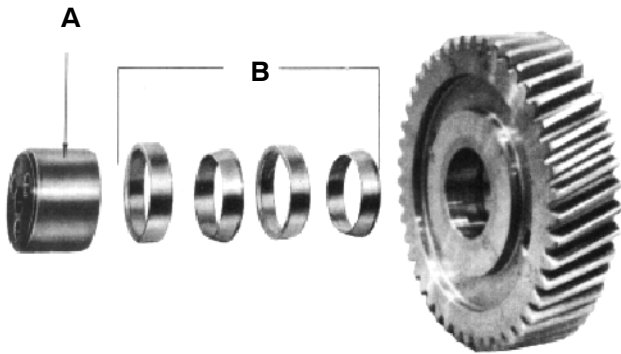
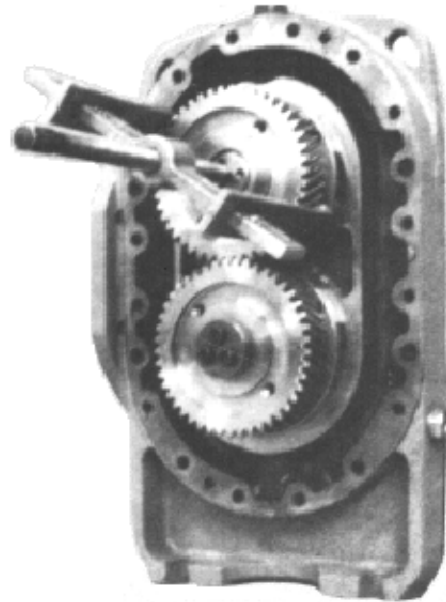

FIGURE 13 - TIMING GEAR ASSEMBLY
FIGURE 14 - TIMING GEAR REMOVAL
Impellers are held in time by timing gears, which are secured in position on the impeller shafts by grip rings inside the gear hubs. To reset impeller clearances (timing) it is necessary to release the grip rings in one of the gears. See FIGURE 13.
Refer to FIGURE 13 and FIGURE 14. Remove the cap screws and gear locking clamps (A) from both shafts. Inside the hub of each gear are two pairs of telescoping grip rings (B) which secure the gear to the shaft. These grip rings must be released to remove the gear.
This is done by withdrawing the gear (FIGURE 14) about 1/8 inch (3 mm) with a gear puller, then lightly tapping the side of the gear. This releases the rings and allows the gear to be removed by hand.
To reassemble, locate each gear firmly against the bearing race on its shaft. Thoroughly clean and dry all components - the grip rings, shafts and gear bores; coat the grip rings with a light oil, then slide the grip rings all the way onto the bores. Be sure the rings are paired and faced identically as originally installed, as shown in FIGURE 13. (Note: do not reuse grip rings which have been disassembled, since they lose concentricity and locking characteristics.)